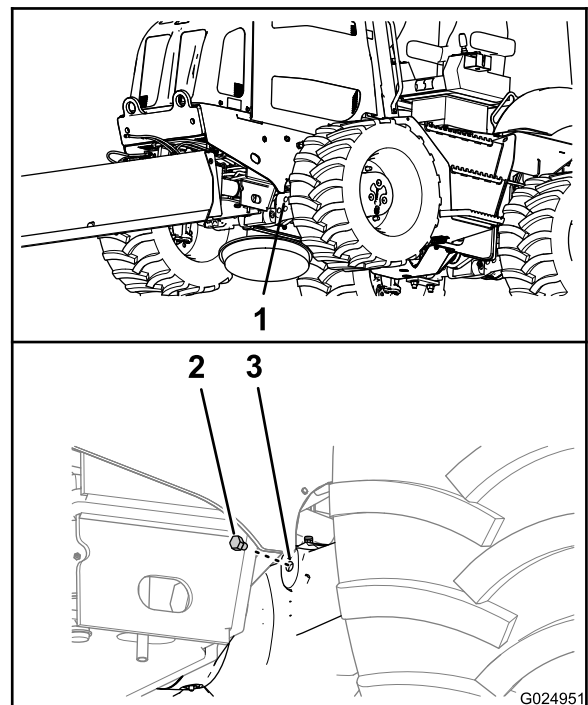
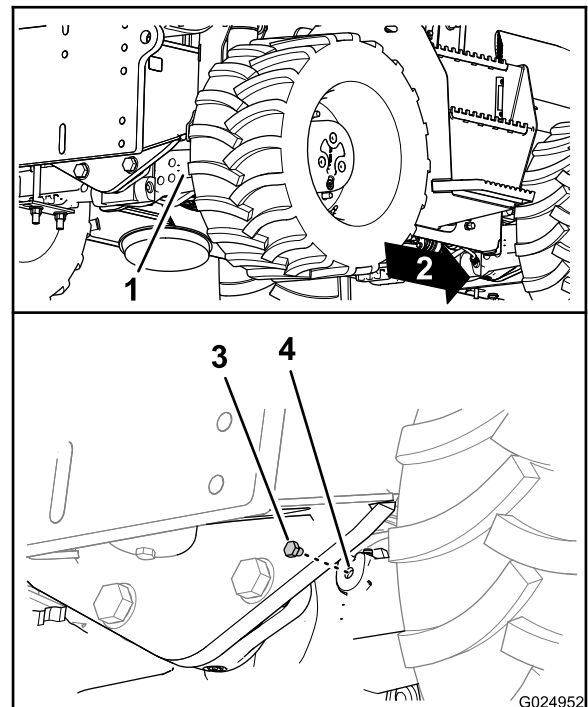

Figure 86
Figure 87
2. Remove the plugs from the sight port in the pinion housing of the axle (Figure 86 and Figure 87).
- Look through the sight port and check that the oil level in the axle is level with the bottom of the threads of the port (Figure 86 and Figure 87).
- Install the sight plug into the sight port in the pinion housing of the axle (Figure 86 and Figure 87).